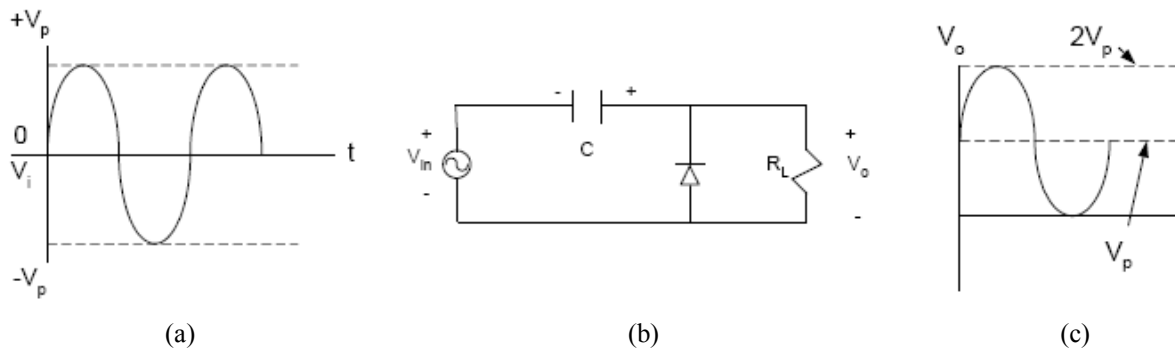
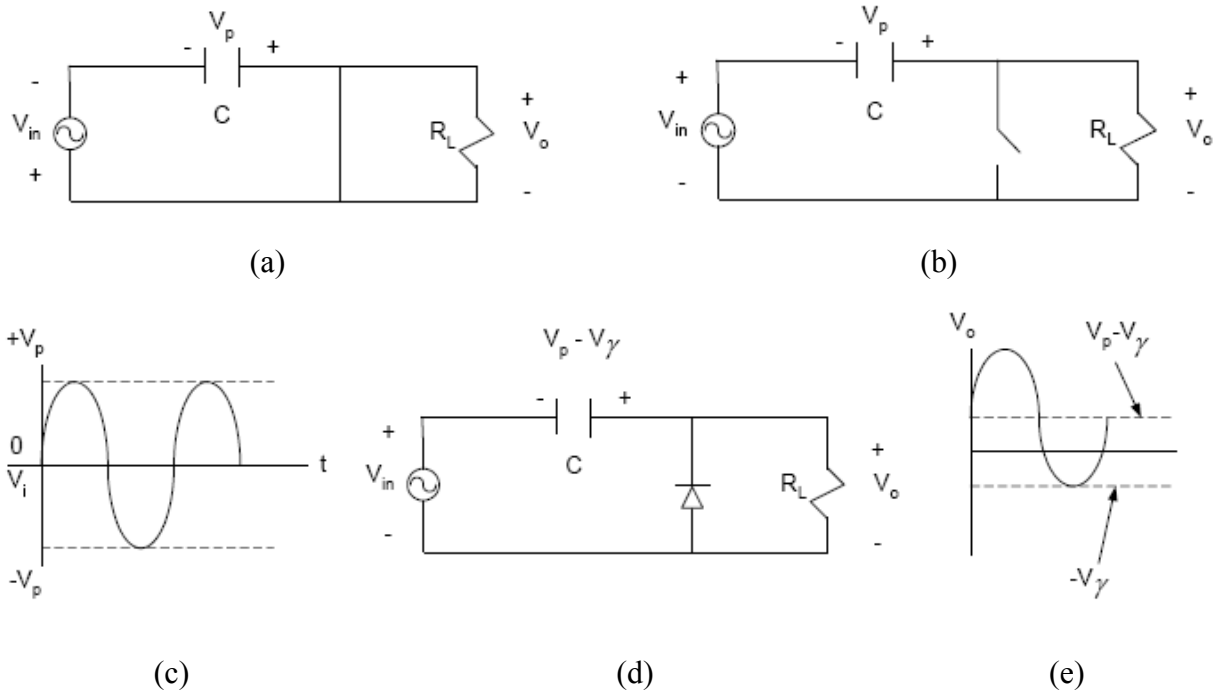
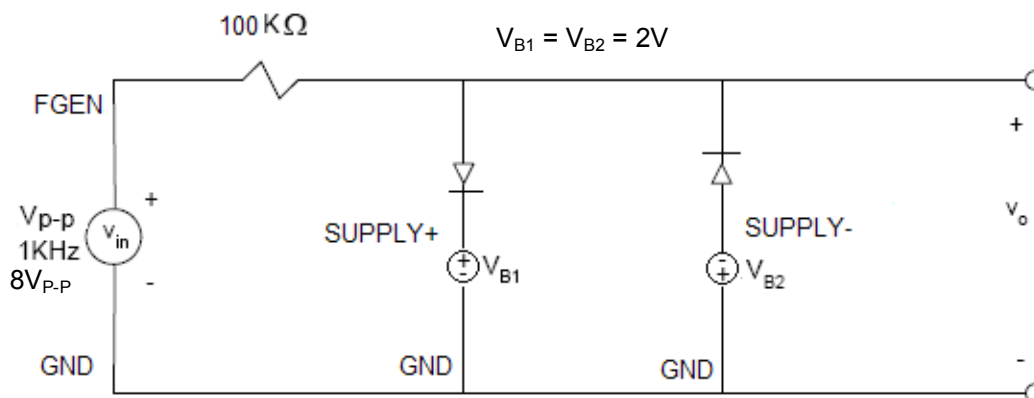

Figure 4.3: Positive dc clamber: (a) Sinusoidal input to positive dc clamber; (b) Positive dc clamber; and (c) Clamped sinusoidal output
Figure 4.4: Positive clamping circuit operation
Figure 4.7: Parallel biased clipping circuit
The circuits to be tested and simulated are several clipper circuits and a clamper circuit. The clippers use a diode, resistor, and voltage source in 8 possible locations and orientations in a circuit. You should be familiar with the basic operation of clipper and clamper circuits as discussed in the text. You should be able to produce the output wave shapes shown for the circuits in Figures 4.1 through 4.7 below. You should simulate the circuits shown below in Figure 4.4(a), Figure 4.5(a), Figure 4.6 and Figure 4.7 using B2 Spice. (Assume $R_L = 1k\Omega$, $V_{SIN} = 8V_{p-p}$ and $V_B = 2V$)
In Figure 4.3(b) a positive dc clamber is shown. The clamber operates as follows: During the negative half-cycle of the input voltage, the diode turns on as illustrated in Figure 4.4(a). At the negative peak, the capacitor charges up to V_p with the polarity shown and the output voltage is zero. As the voltage grows beyond the negative peak, the diode shuts off as shown in Figure 4.4(b).
Since the diode drops V_γ volts when conducting, the capacitor voltage does not quite reach $+V_p$ volts. For this reason, the dc clamping is not perfect, and the negative peaks are at $-V_\gamma$ as shown in Figure 4.4(e).
When the polarity of the diode in Figure 4.3(b) is reversed, the polarity of the capacitor voltage reverses also, and the circuit becomes a negative dc clamber. Ideally, the output voltage consists of the input voltage riding on a dc voltage of $-V_p$ volts. If the diode is considered non-ideal, then the output will consist of the input signal riding on a dc voltage of $-(V_p - V_\gamma)$ volts, and the positive peaks will occur at V_γ volts.
It is possible to clip wave forms at two different voltages. The circuit shown in Figure 4.7 clips the waveform ideally at V_{B1} (SUPPLY+ = 2V) and V_{B2} (SUPPLY- = -2V). Make an accurate sketch of the input and output voltage waveforms for the circuit in Figure 4.7, noting the peaks of the output waveform and the input voltage at which clipping occurs. What would happen to the output wave shape if either V_{B1} or V_{B2} were changed continuously from 1V to 2V?
3. Parallel-Biased Clipper — Build circuit (Figure 4.7)